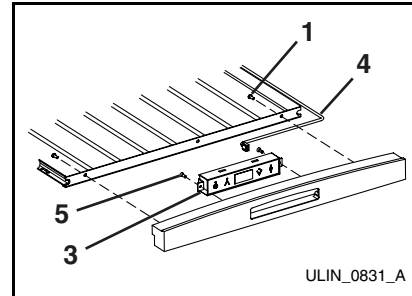

Figure 27
2. Remove the two screws (**Figure 27, 1**), securing trim to wine rack assembly (**Figure 27, 2**).
NOTE: Your model will contain an electronic display panel (**Figure 27, 3**) in the middle level trim piece. After removing the trim screws, and gently pulling the trim from its location, a wiring harness connector (**Figure 27, 4**) will become visible. Unplug the connector.